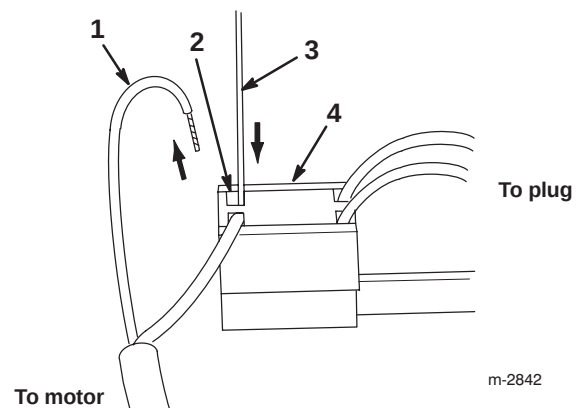

Figure 8
3. Insert the smooth end of a small drill bit into the switch contact openings, depress the flat springs inside the contact openings, and pull the old starter wires out of the switch (Fig. 8).
- Twist the new starter wires and insert them all the way into the contact openings (Fig. 8).